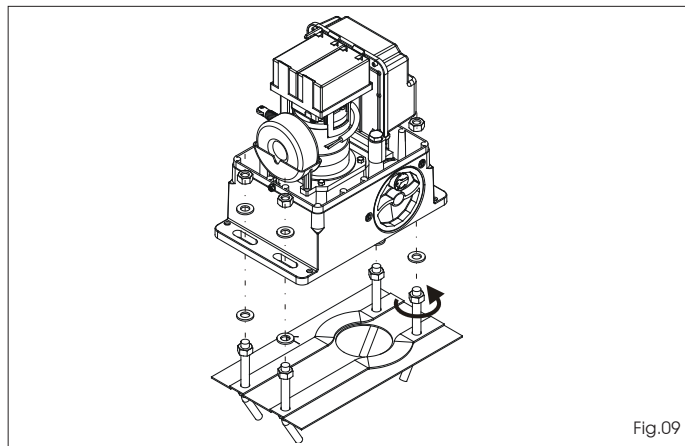

Fig.09
- 2- Position the operator on the foundation plate, using the supplied washers and nuts as shown in Fig. 09. During this operation, route the cables through the appropriate openings in the motor body (See Fig.01 ref.9). If necessary, the two holes can be joined using a hammer to obtain a wider space.